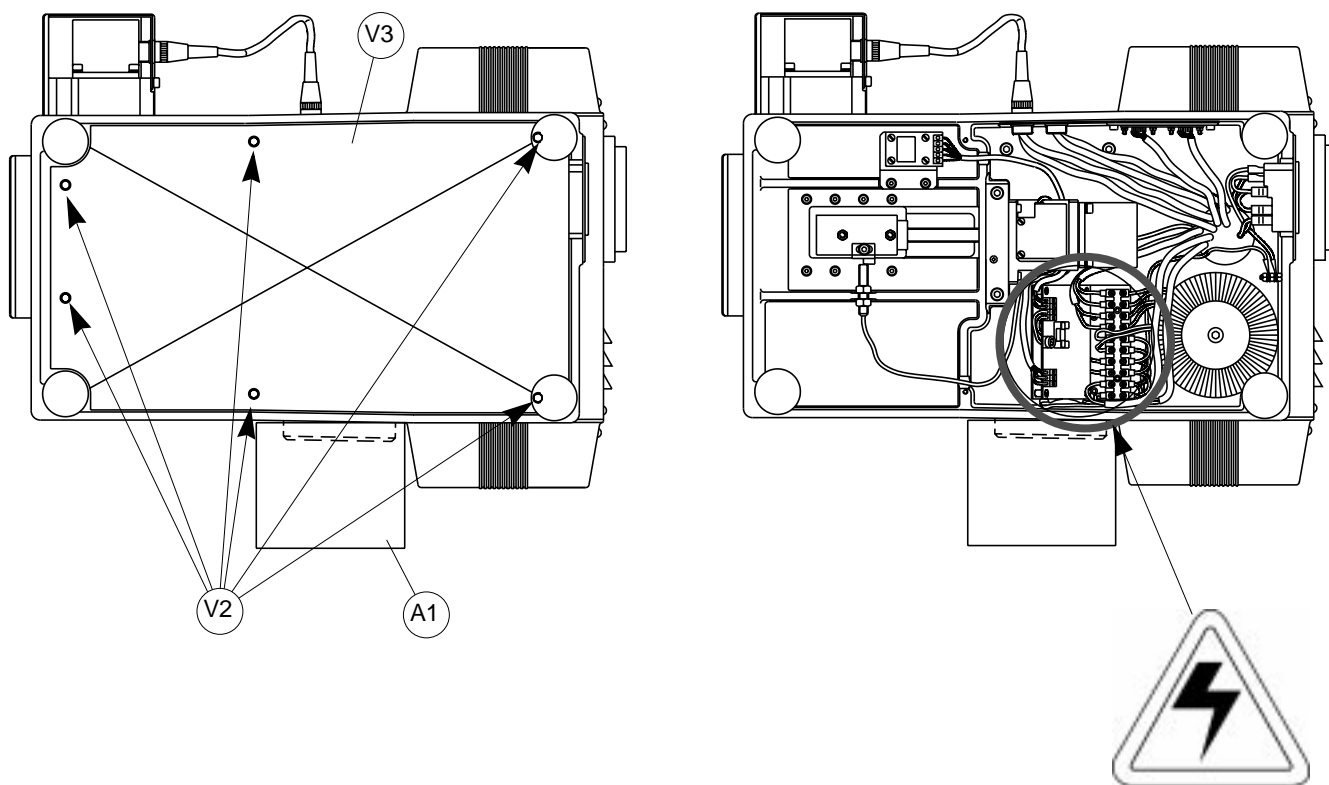

Fig. 48
- 3) loosen the six screws and remove the bottom plate (V3) (fig. 48).